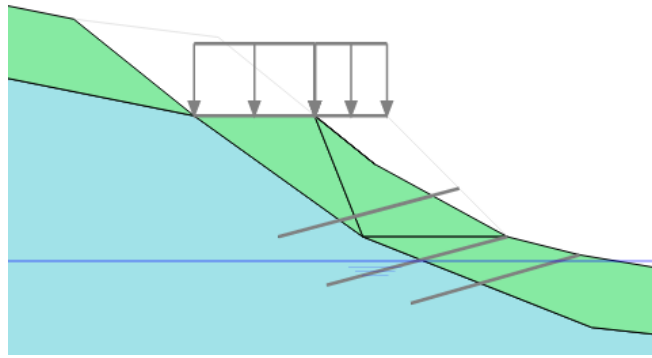

Figure 5: Phase 2, road excavation
- Switch off the upper part of the road excavations, see figure 5.